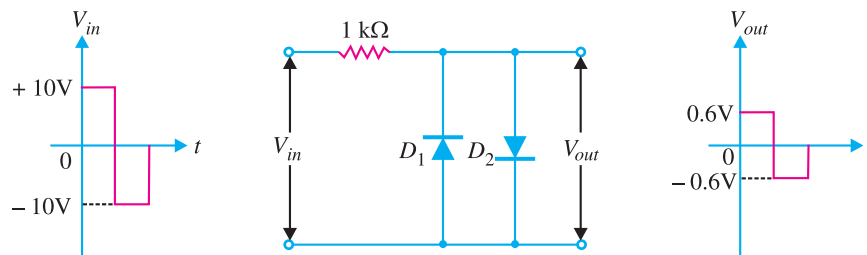

Fig. 18.41
**Example 18.15.** For the input wave to the symmetrical clipper shown in Fig. 18.41, find the output voltage waveform. Assume that the barrier voltage of each diode is 0.6V.
**Solution.** Fig. 18.41 shows the symmetrical clipper.